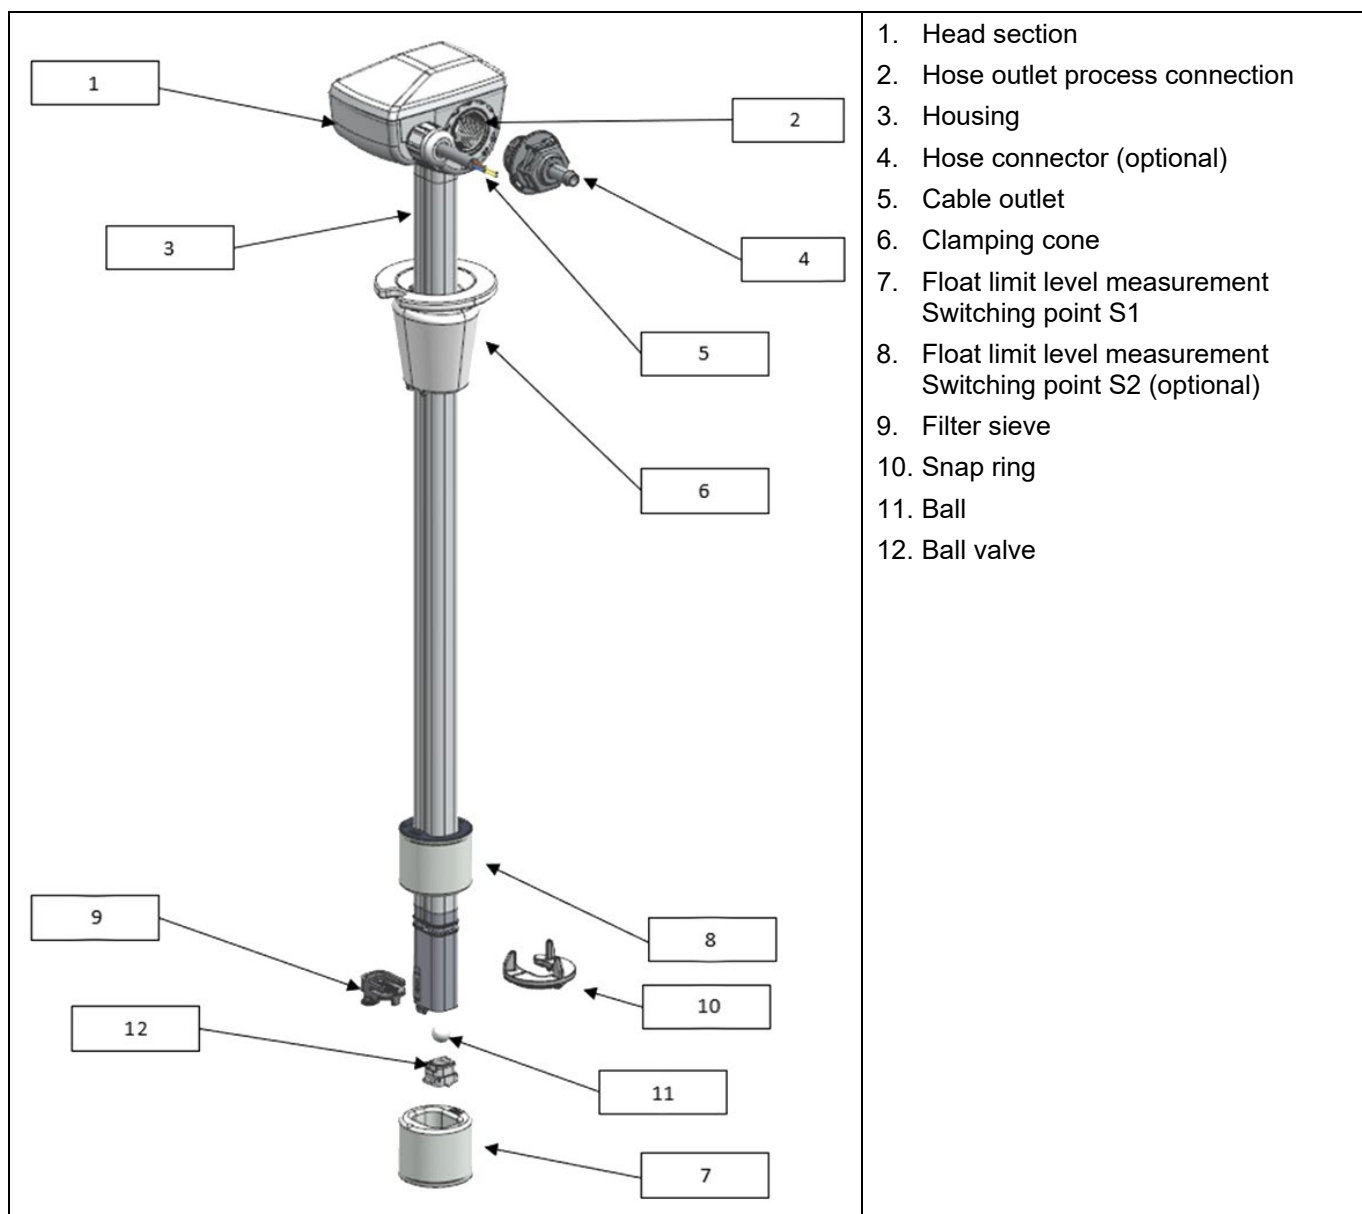
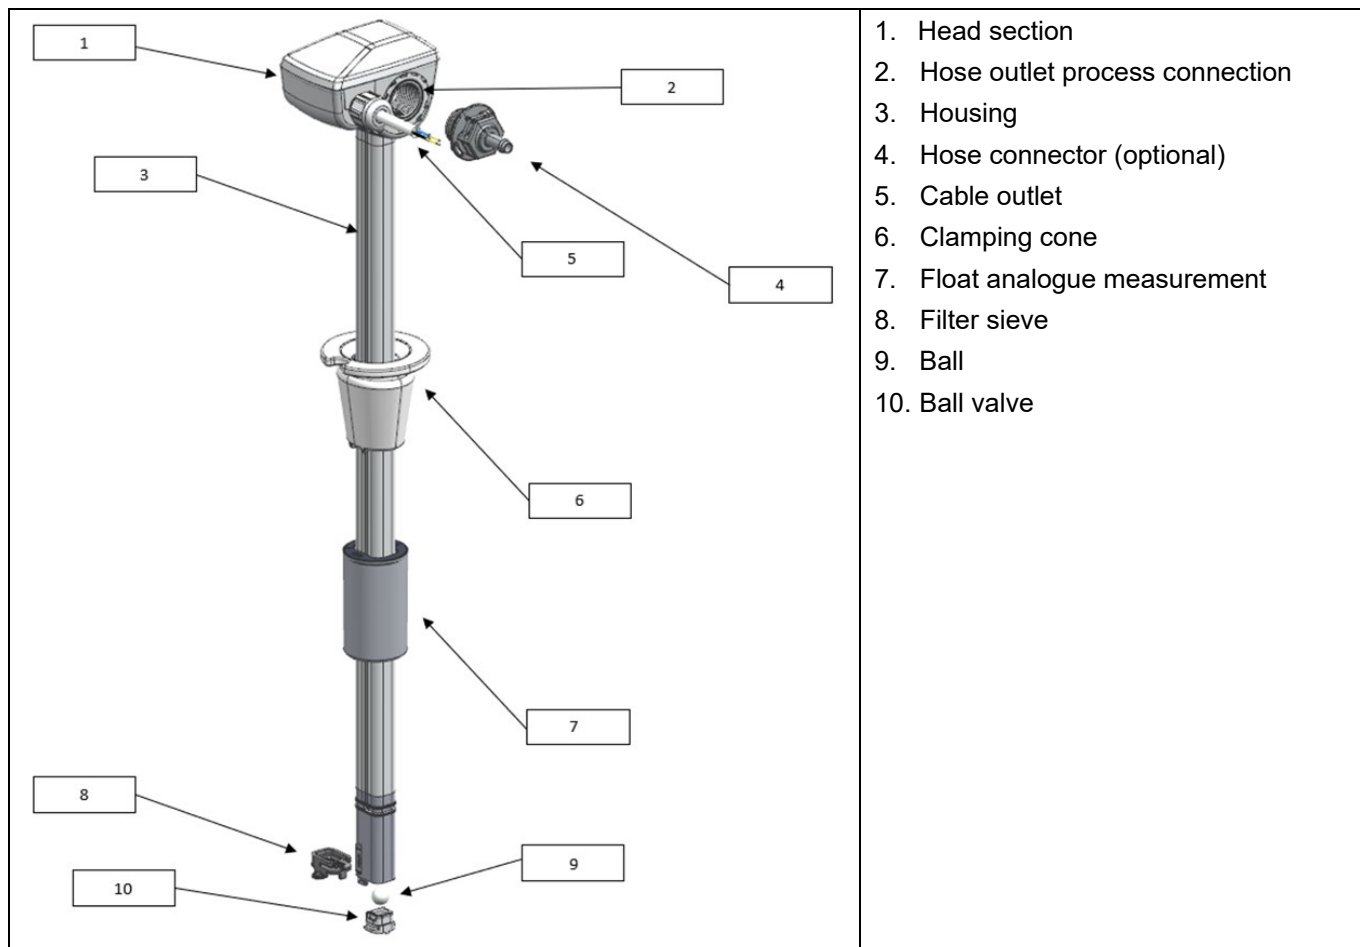

Figure 4
Figure 5
The float (Figure 4, item 7 and item 8 as well as Figure 5, item 7) with integrated magnet moves up and down depending on the fill level. This activates a reed switch. Depending on the switching function of the reed switch, the signal is output either on a rising or falling level.
eloLance SL2D1 variants have a float (Figure 4, item 7), e.g. for the empty message of a container. eloLance SL2D2 variants have 2 floats (Figure 4, item 7 and item 8), e.g. for the pre-empty and empty signal of a container.
eloLance SL2R variants have a continuous level measurement with an extended measuring range, which is detected by means of a float (Figure 5, item 7) and reed grid.
The integrated filter sieve (Figure 4, item 9 and Figure 5, item 8) ensures that the eloLance and the attached system are protected from coarse foreign bodies and impurities.
The ball leakage brake consists of a freely movable ball (Figure 4, item 11 and Figure 5, item 9) and the ball valve (Figure 4, item 12 and Figure 5, item 10). The ball leakage brake prevents larger quantities from discharging after the eloLance has been removed from the container.
The eloLance is connected to a hose (not included in the scope of delivery) and the downstream system (e.g. dosing pump) at the head section by means of a hose connector (Figure 4 and Figure 5, item 4).
- ▶ Insert the hose connector (Figure 4 and Figure 5, item 4) into the G3/8" thread. Observe the tightening torque of 2.3 Nm -0.2 Nm/+0.7 Nm to ensure leak-tightness.